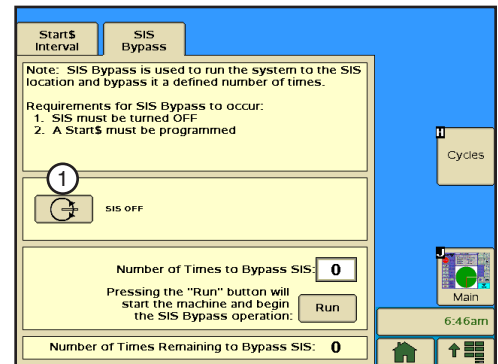

Figure 171-2 1. Stop-In-Slot Button
1. Push **Prog** and **Cycles** to view the Cycles screen. Refer to Figure 171-2.